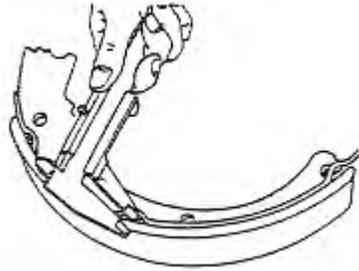

figure 2-23
(1) Check up if there is any rust of inner surface of sub-pump and outside of piston; then measure the clearance between piston and pump body. Standard size: 0.03mm—0.10mm; limit size: 0.15mm
(2) Visually Check up if there is any damage and deformation of cup leather, please replace if abnormal.
(3) Measure the free length of brake sub-pump, if abnormal, please replace.
(4) Measure the thickness of friction slice, if exceed the limit wear, please replace. Standard: 8.0mm; limit: 2.0mm. See figure 2-23.